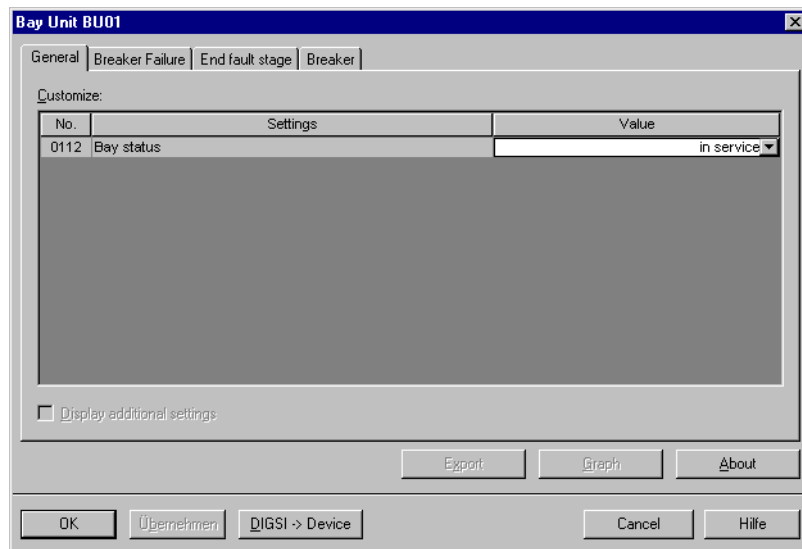

Figure 6-30 Bay status window – Example
- Double-click the desired bay unit. The window Bay Unit BU 01 opens (Figure 6-30, page 275). You can also click **Customize....**
- Double-click the desired bay unit. The window Bay Unit BU01 opens (Figure 6-30, page 275). You can also click **Customize....**